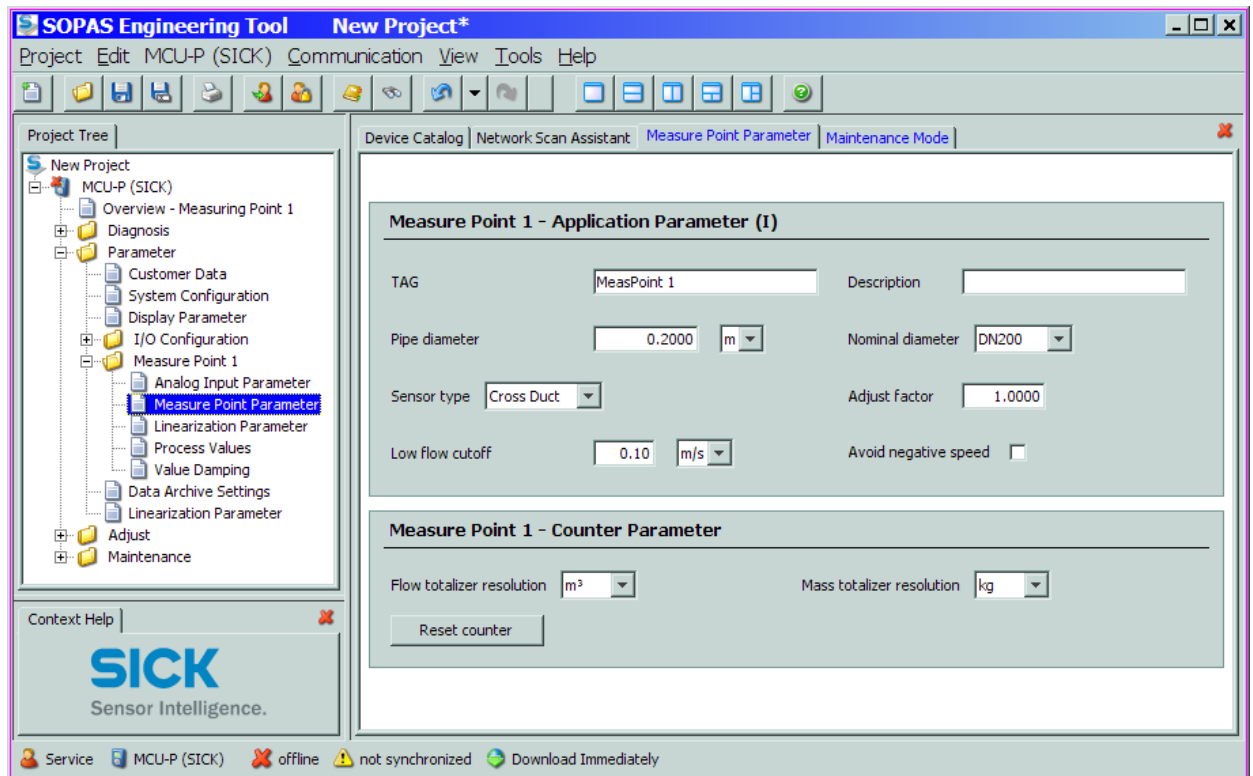

Fig. 4.30: "Parameter / Measuring Point 1 / Measure Point Parameter" directory
The measuring precision of the velocity measurement can be improved by a comparison measurement (net point measuring with reference measuring system) still further. The measured values have to be entered as an offset in the "Adjust factor" window in the "Parameter / Measure Point 1 / Measure Point Parameter" directory, field "Measure Point 1 - Application Parameter (I)" (see Fig. 4.30).